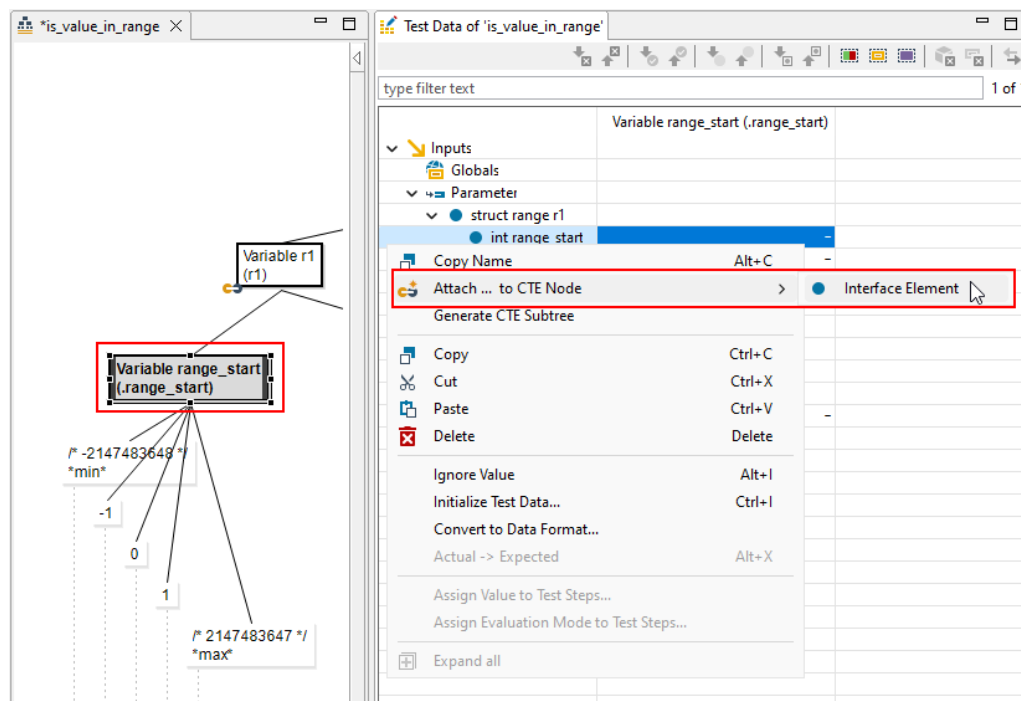

Figure 6.195: Attaching an interface element to a CTE node
- Select tree node element in the tree area (see figure 6.195).